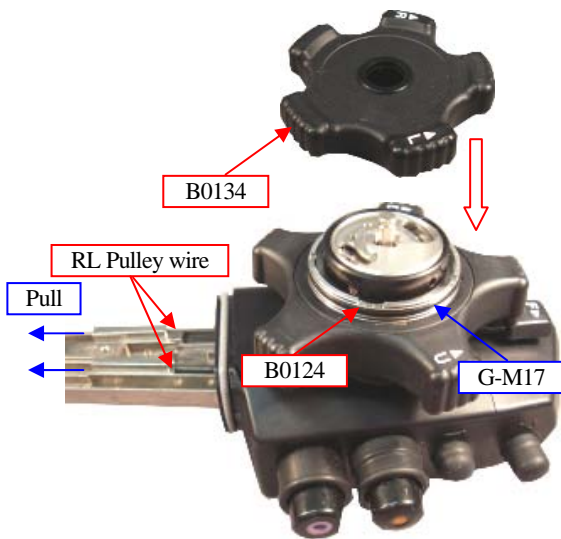

Fig.7-1-17
- 2) Pull the RL Pulley wire and set it evenly and attach B0134 in the correct position as shown in Fig.7-1-17.